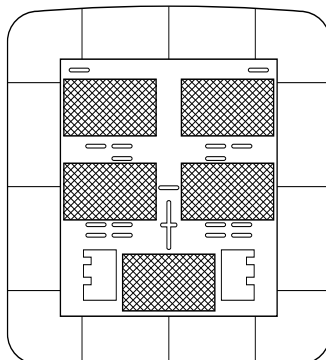

Figure 3
7. Drill four (4) 5/16" diameter holes at the marked locations. The depth should be 1-1/2 times the length of the ALLIGATOR® ANCHOR
9. Position the double back tape on the back of the dispenser as shown in Figure 3.
10. Remove the tape liner and reposition the dispenser on the center screw. Align the dispenser such that the four (4) wall anchors are in alignment with the selected mounting slots. Push the dispenser until it seats firmly against the wall.